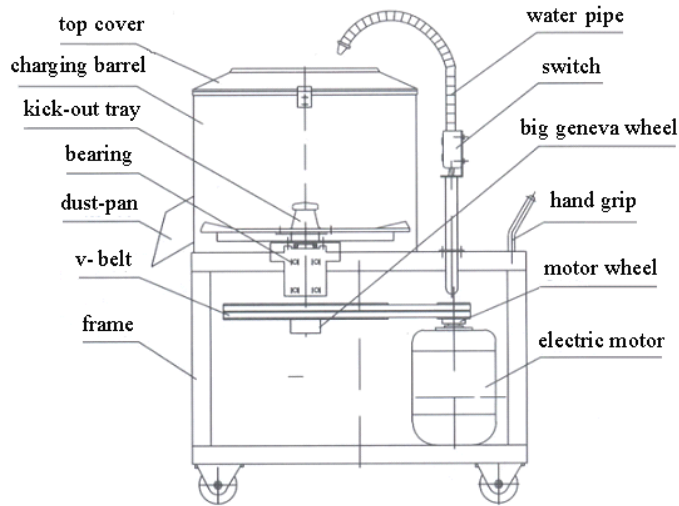

Fig.1 Schematic diagram of transmission structure
2.1.1 This machine mainly consists of machine frame, charging barrel component, kick-out tray and water inlet system, etc. (Fig. 1)
The transmission system of this machine mainly adopts belt transmission. Schematic diagram of transmission principle is shown in Fig. 1.